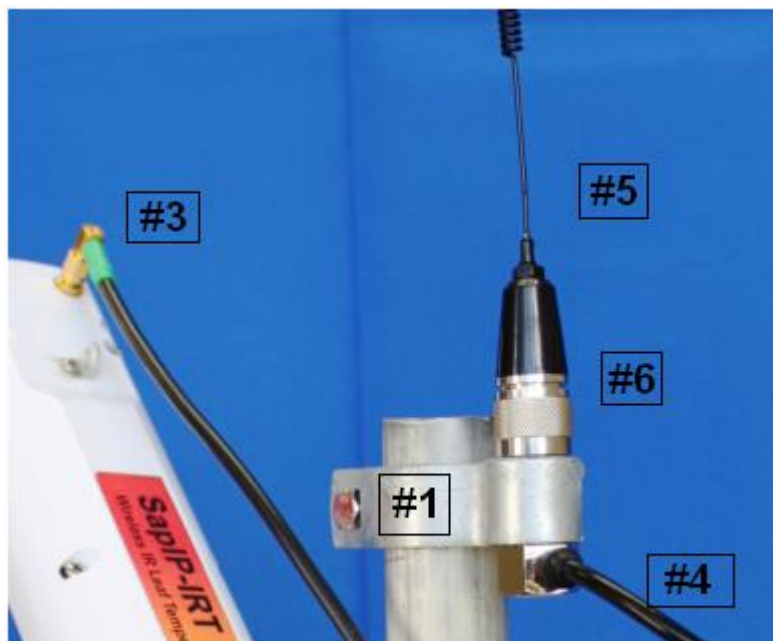

Figure 3: Antenna Assembly
- To begin this process, must find the item marked #1 as denoted in figure 3. Place this small version of hinge hanger at the end of the pole and grab the lock washer associated with it. Slide the hex-head bolt through either side followed by a washer and hex-nut to firmly lock it in place.
- Next, select the RSMA antenna connector, marked as #3 within figure 3. This item should be screwed on the golden apparatus on the far end of the IRT. After turning closed your fingers, then screw it in place tightening with a small crescent wrench 1/8 of a turn. This will properly seal the silicon inside the water seal of the connector.